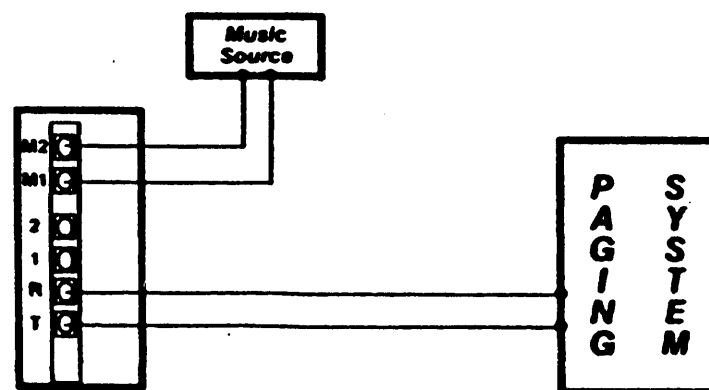

Figure 3
2. Wrap the end of the wire connected to the paging system Tip clockwise around the T terminal (Figure 3).
3. Wrap the end of the wire connected to the paging system Ring clockwise around the R terminal (Figure 3).